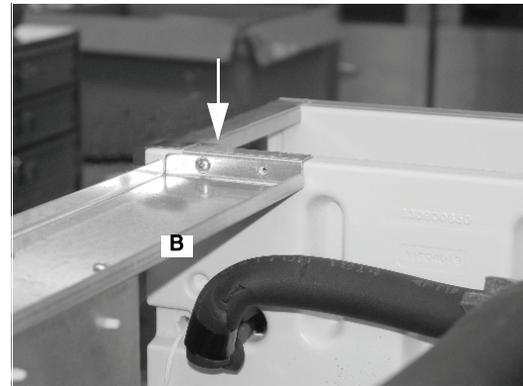

Figure 17.
14. Remove the 2 screws connecting the top support brace (B) to the evaporator bulkhead (FIGURE 17).